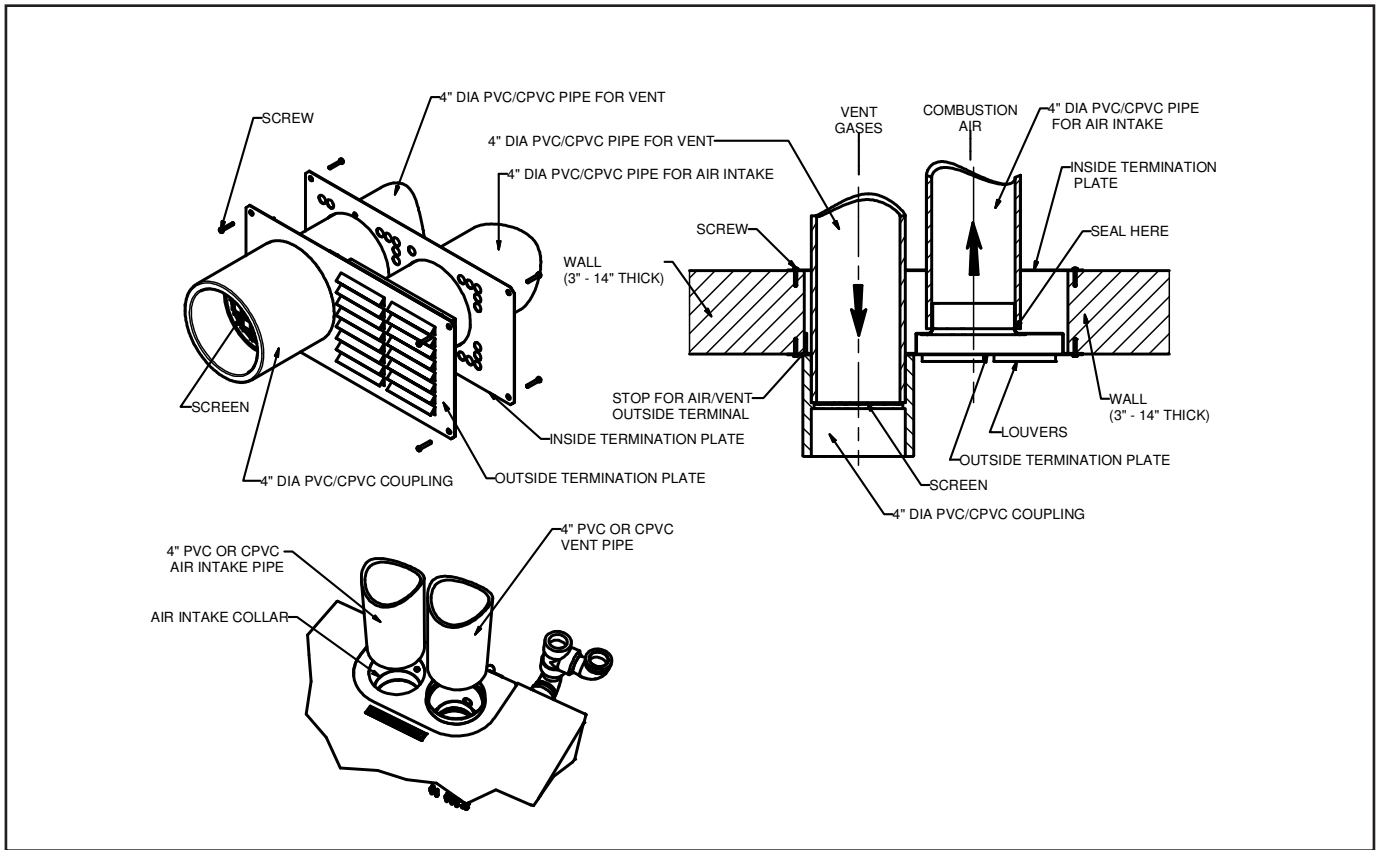

Figure 12a. Vent/Air intake termination; utilizing PVC/CPVC pipe for venting.
2. Refer to Figure 12a for installation details.